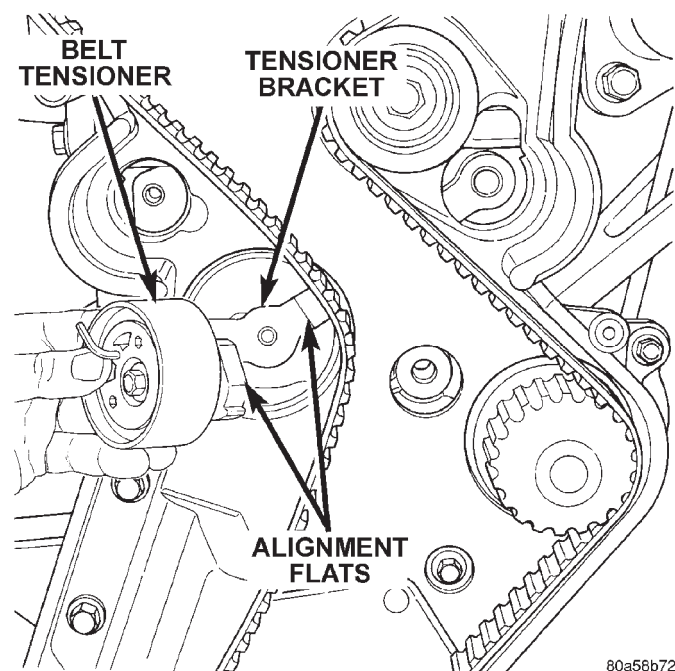

Fig. 56 Tensioner to Bracket Alignment
(1) If replacing timing belt tensioner, remove the bolt from the center of the tensioner. Remove tensioner.
(2) When installing the tensioner align the flat on the tensioner bracket with the flat on the tensioner (Fig. 56).
(3) Torque tensioner center bolt to 28 N·m (252 in. lbs.).